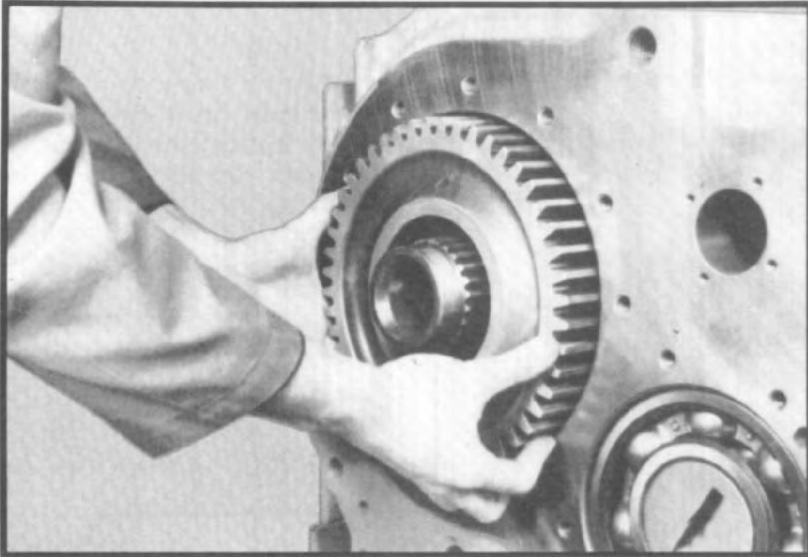

Fig. 119
2.10 Install direct drive gear through the rear case bore and onto rear of shaft with clutch face inwards. (See fig. 119.) Remove chain hoist support from shaft assembly.